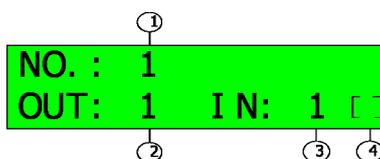
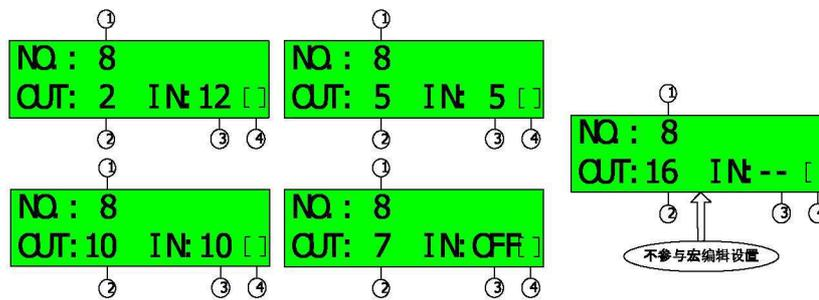

Figure 11:Modify macro menu
Figure 12:Modify macro menu
To the following figure 11, the cursor is at ②.
- a) Unlock the panel if panel locked (The LED displays as above figure 11).
- b) Move cursor to ① to select the macro number 8 through MACRO and ENTER button.
- c) Move cursor to ② to select output channel 2, Move cursor to ③ to select input channel 12. The same way to set the output channels 5,7,10 as the following figure 12. And other output channels set to be as output channel 16.